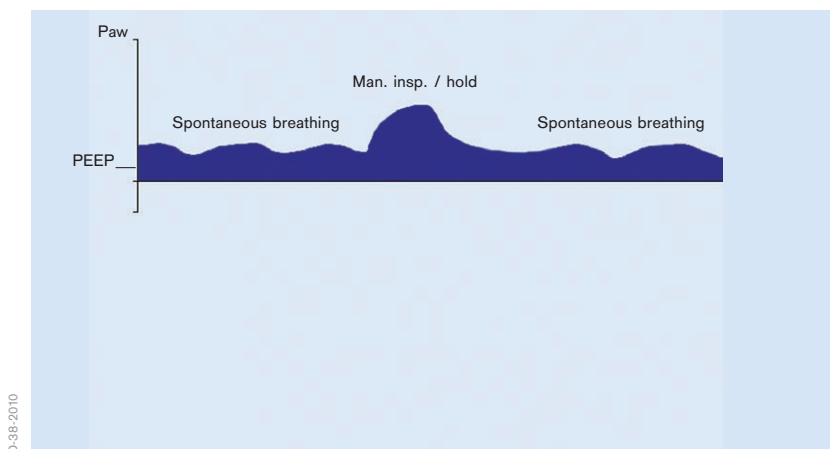

Figure 41: SPN-CPAP
- manually triggered, time-cycled, pressure-controlled breaths (Figure 41)